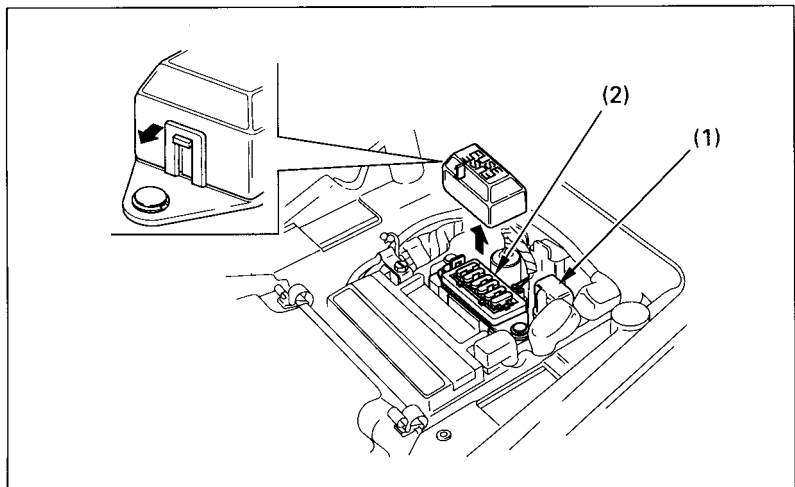

Fig. 4-20 (1) Main fuse
As illustrated in Fig. 4-20, the main fuse (1) and the sub fuse (2) are located in the battery compartment.